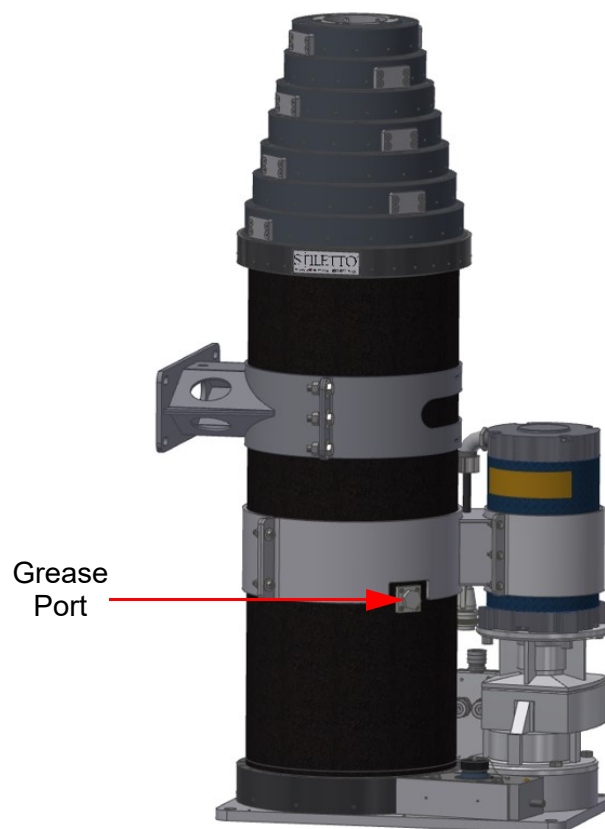

Figure 8-1 Grease Port
3. Remove the hex-shaped access plug from the grease port on the side of the base tube (Figure 8-1).